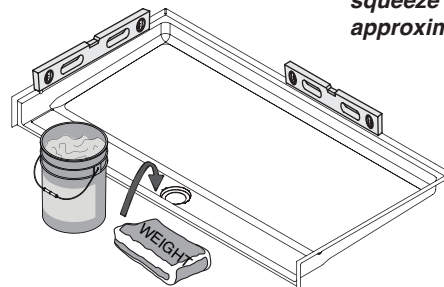

Figure 11
- 7** **PLACE 50 POUNDS OF WEIGHT** on top of the drain, as shown in Figure 11 to ensure the pan is making contact with the epoxy.